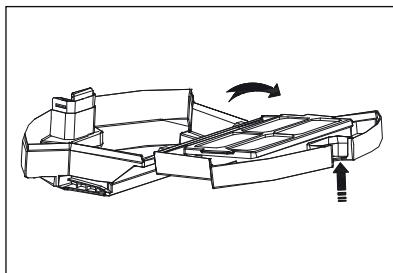

Fig. 8
- 2) Press the release button ⑬ of the dust container ⑯, and fold it open (see Fig. 8).